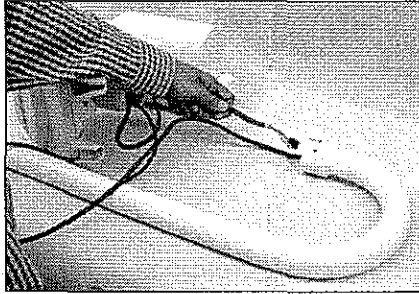

Figure 5-27e: Installing Injector
- b. Insert both of the Injector's cables into the short leg of the Injector Mounting Arm (see Figure 5-27e).